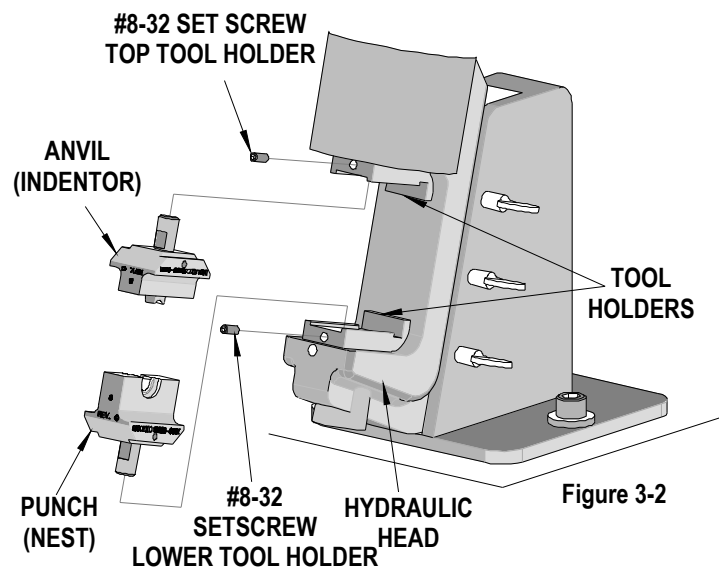

Figure 3-2
3. Loosen the #8-32 setscrew in the upper tool holder in the hydraulic head assembly. Place the anvil (Indentor) in the top tool holder and retighten the setscrew. See Figure 3-2.